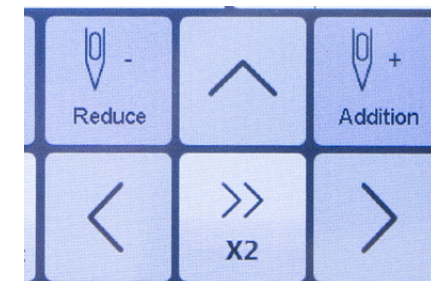

Figure 99
2. To rewind by stitch count, click on the "Reduce" icon. To fast-forward by stitch count, click on the "Addition" icon. **See Figure 99.**